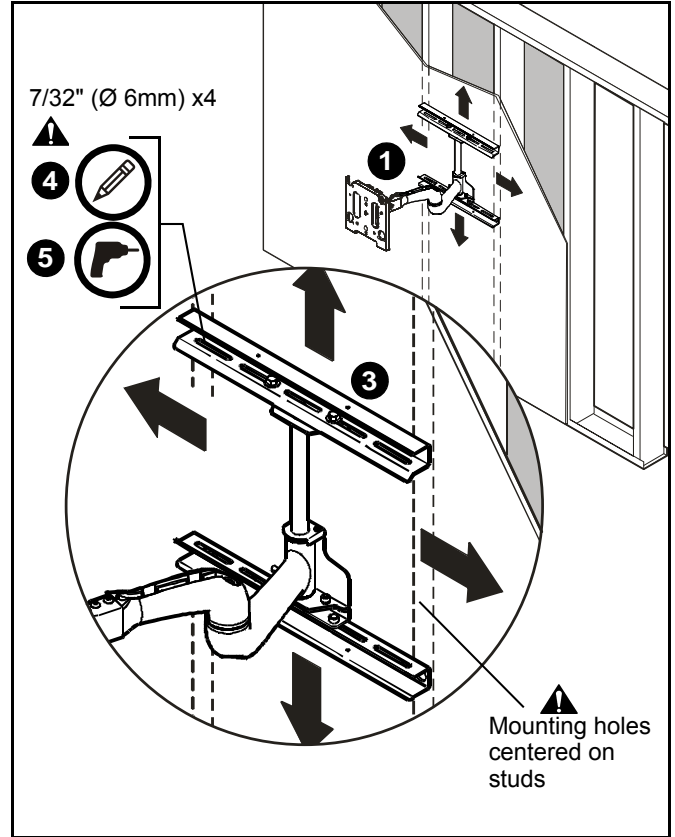
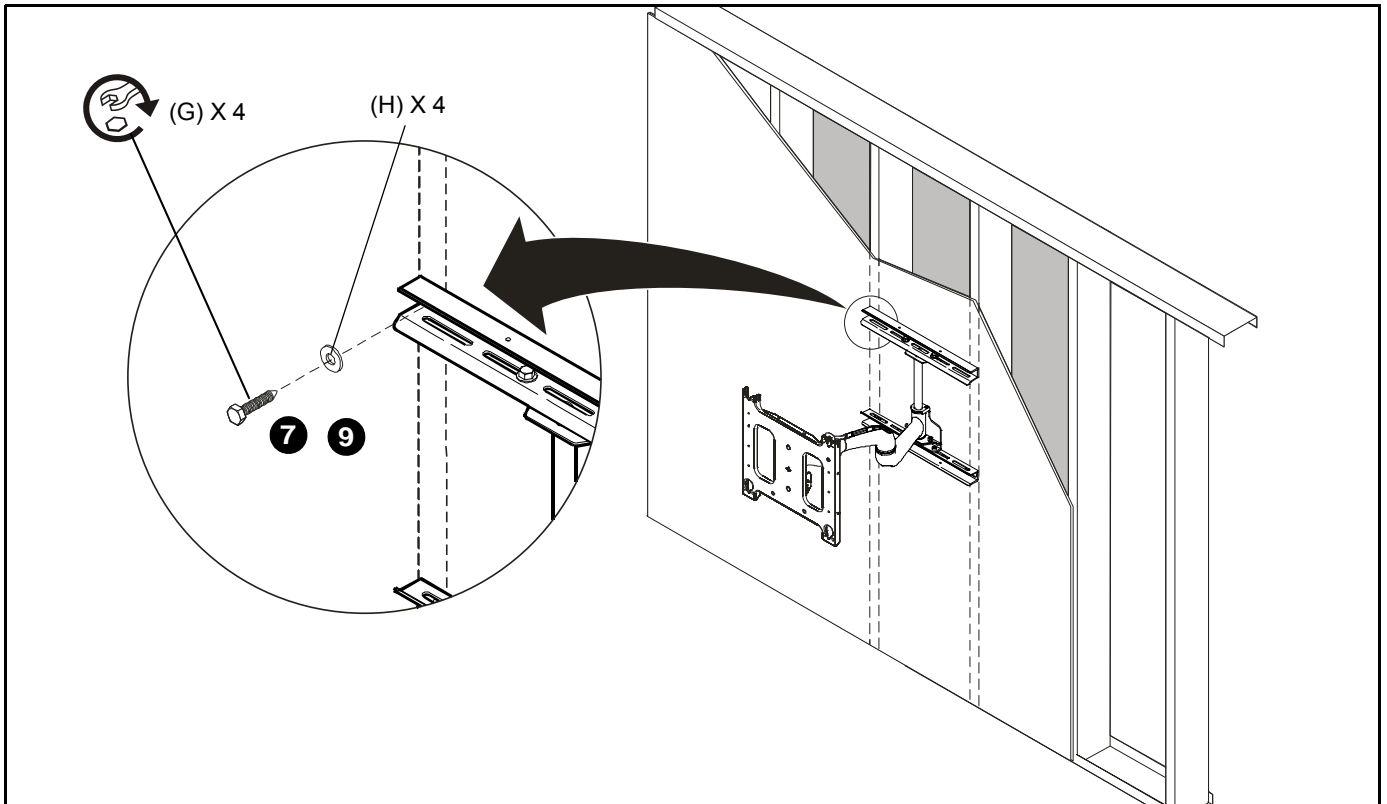

Figure 2
Figure 3
2. Using a stud sensor locate two wood studs 16" apart on center. (See Figure 2)
3. Using two people, place mount against wall and level mount aligning mounting holes in upper and lower wall channels with studs. (See Figure 2)
4. Use a pencil mark four mounting holes making sure mounting holes are located as close as possible to center of studs. (See Figure 2)
5. Drill four pilot holes where the mounting holes were marked using a 7/32" (6mm) drill bit. (See Figure 2)
6. Install two 5/16" x 2-1/2" lag bolts(G) and two 5/16" flat washers(H), through mounting holes in upper wall channel and into pilot holes. DO NOT tighten at this time.
9. Install two 5/16" x 2-1/2" lag bolts (G) and two 5/16" flat washers (H), through mounting holes in lower wall channel and into pilot holes. (See Figure 3)